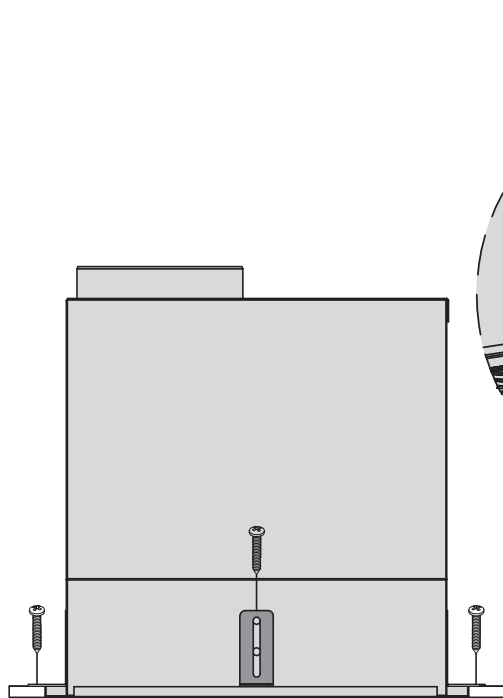

Figure 5
- Using appropriate mounting screws (not included), attach the L shaped bracket to the base of custom hood or hood liner (see figure 5, 6 and 7).